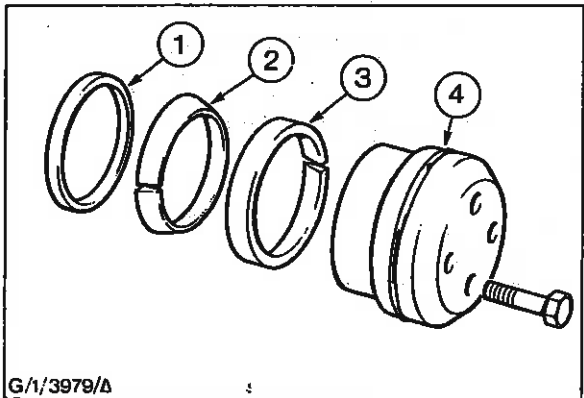

Fig. 21 - Crankshaft Pulley Retaining Components - 2728T Engine (Ringfeder Locking Mechanism)
33. On 2728T engines remove the four bolts retaining the crankshaft pulley locking sleeve and remove the locking sleeve. Strike the face of the pulley a firm blow with a soft faced mallet to release the Ringfeder locking mechanism and remove the pulley, the locking rings and the spacer ring - see Fig. 21.